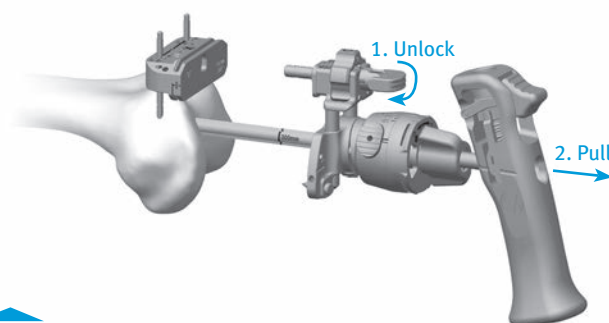

Fig. 13
- Flip the lock lever on the Adjustable Resection Tower to the unlocked, or "in-line", position and pull the handle to remove the IM Rod and assembled distal resection instrumentation leaving only the Cut Guide attached to the femur (Fig. 13).